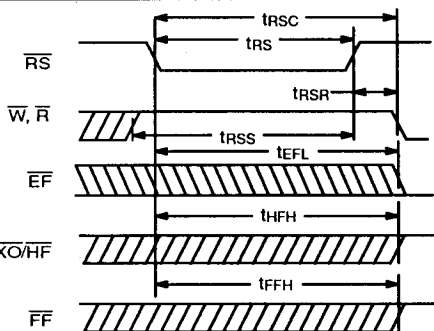

Figure 2. Reset Timing
Upon power up, the FIFO must be initialized with a Reset cycle. (See Figure 2.) The states of XI and FL are used during the reset cycle to determine the FIFO's mode of operation, as shown in Tables 1 and 2. For a valid reset cycle to occur, both the Read (\overline{R}) and Write (\overline{W}) signals must be HIGH t_{RSS} prior to and t_{RSR} after the rising edge of Reset (\overline{RS}). The reset cycle initializes the FIFO to an empty condition, signified by the Empty Flag (\overline{EF}) being LOW, active, and both the Half-Full (HF) and Full Flag (FF) being HIGH, inactive.